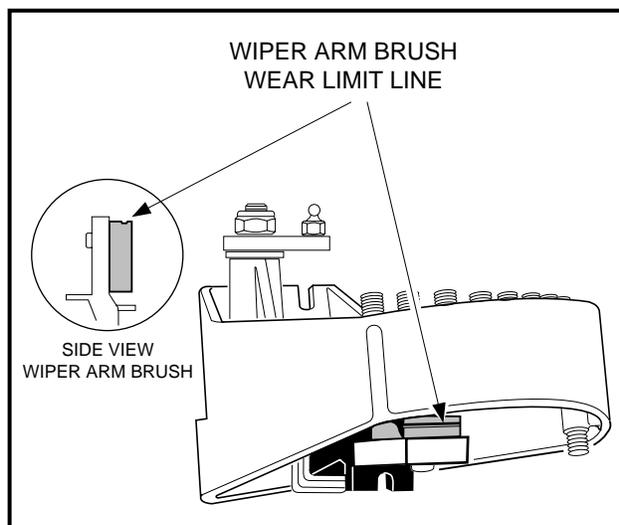

Figure 11-23 Wiper Arm Brush Wear Limit Line
2. Inspect both the brush and fixed contacts for excessive pitting, burns, or wear. If the brush is worn to the wear limit line (**Figure 11-23, Page 11-14**) it must be replaced. If the brush must be replaced, **see Section 12-Components**.